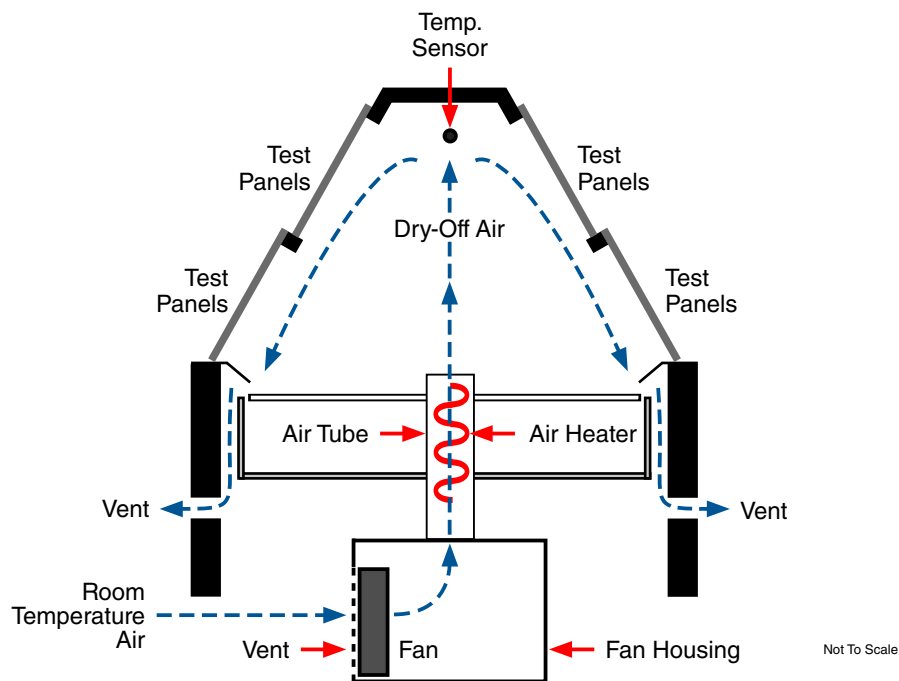

Figure 7.2: QCT Dry-Off System.
- The dry-off system is comprised of a fan, an air heater, an air tube, and a control system. Figure 7.2 shows the major components and function of the QCT dry-off system.